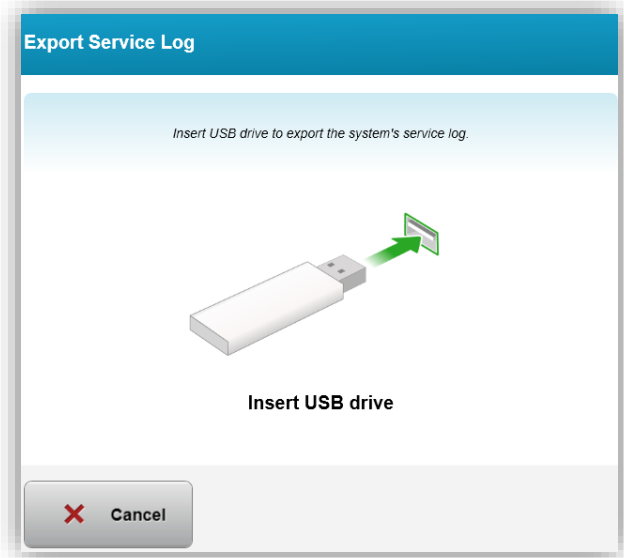

Figure 3-56. Export Service Log to USB
- Follow onscreen instructions to insert a USB drive to the USB port as shown in Figure 3-56.